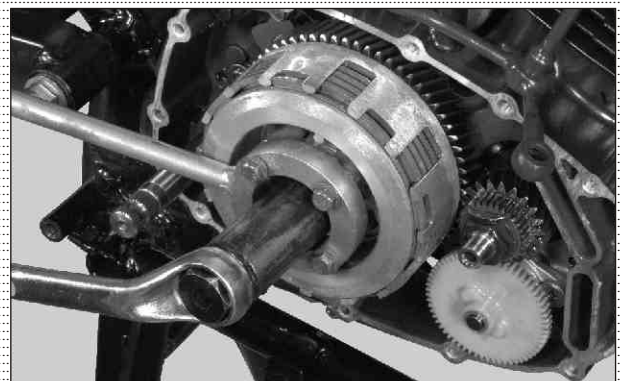

Fig. 3.10
- Using special tool hold the disc clutch pressure and remove nut clutch shaft (slotted nut). (Fig. 3.10)